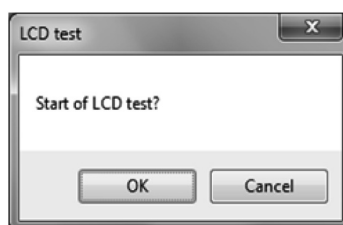

Fig.110
- ③ Click the "OK" button to display a message box (Fig. 110).